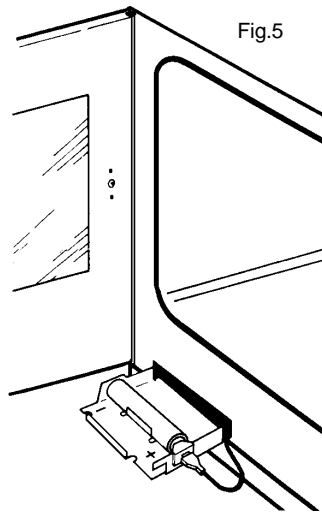

Fig.5
1. The battery is located on the left hand side of the front plinth and can be viewed through a slot in the bottom left hand corner of the front frame(Fig 5.)